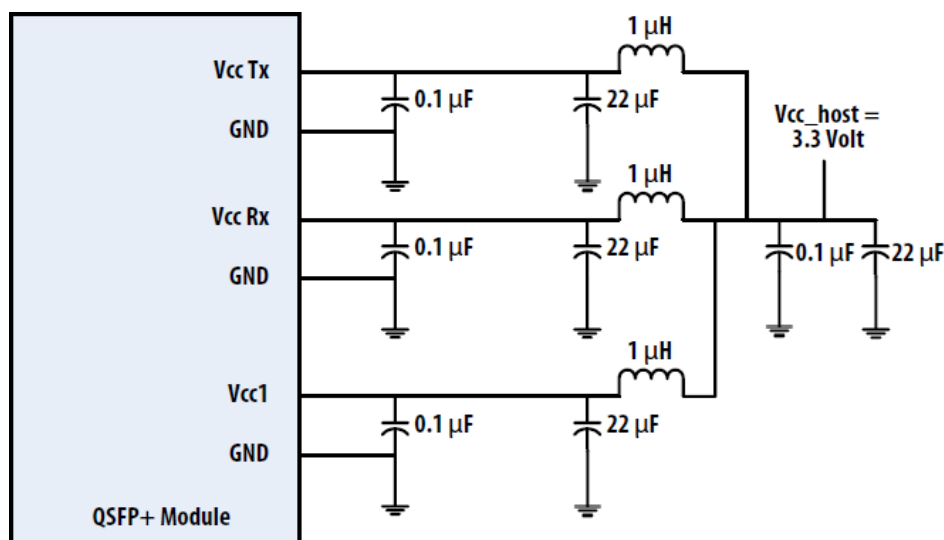

Figure 3. Recommended Power Supply Filter
2. VccRx, Vcc1 and VccTx are the receiving and transmission power suppliers and shall be applied concurrently. Recommended host board power supply filtering is shown in Figure 3 below. Vcc Rx, Vcc1 and Vcc Tx may be internally connected within the module in any combination. The connector pins are each rated for a maximum current of 1000mA.AC coupled.